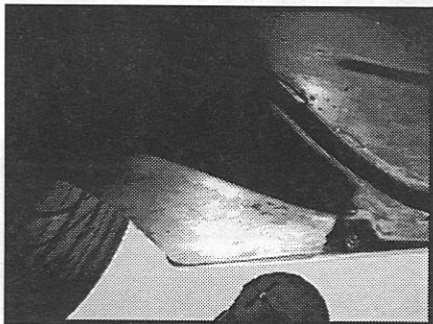

Figure 4
4. Remove the RED factory harness located further from the fender of the vehicle, turn the connector bolt (9/32) counter clockwise to slowly draw the harness away from the computer (see Fig. 4).